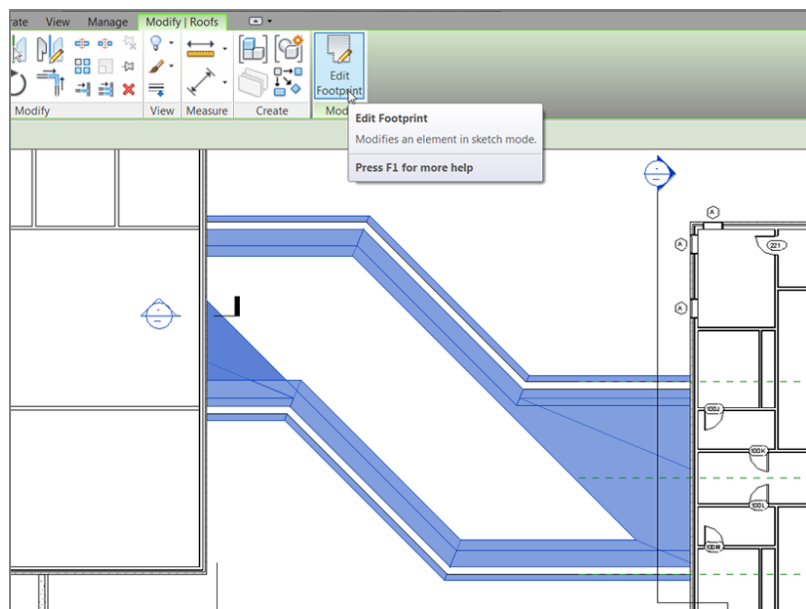

FIGURE 7.26: Selecting the roof and clicking the Edit Footprint button
2. On the Modify | Roofs tab, click the Edit Footprint button, as shown in Figure 7.26.